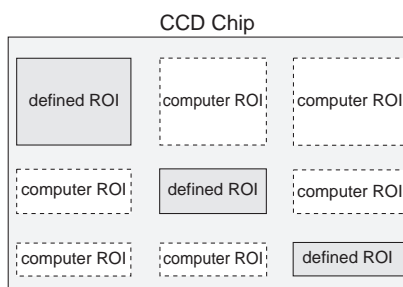
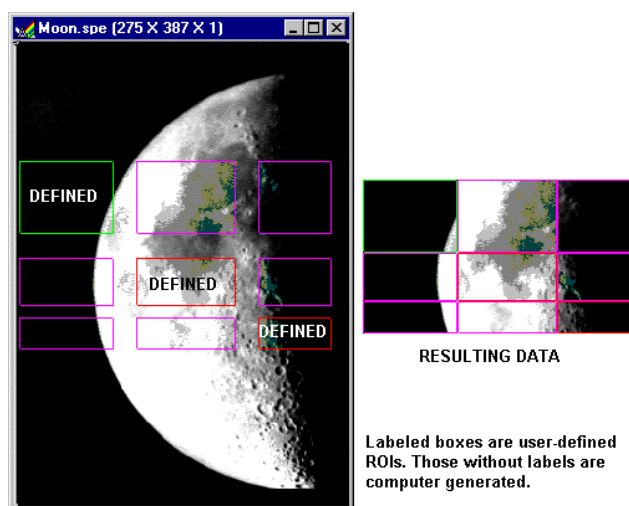

Figure 116. Imaging Mode Multiple ROIs with different widths
Figure 117. Multiple Imaging ROIs and Resulting Data
Figures 112-116 show possible ROI patterns. Note that the patterns in Figure 116 demonstrate varying size ROIs, a feature of Imaging Mode.
2. Once the first pattern is defined, all subsequent patterns are automatically assigned the same X-axis starting, ending, and grouping values. The first pattern need not be full width — any values in the chip range can be entered, but once stored, those values will apply as well to subsequently defined patterns. The figures below illustrate possible ROI patterns. Note the additional functionality available in Imaging Mode (Figure 116).
In this mode, ROIs can have varying sizes and degrees of overlap. However, when you define multiple ROIs like those in Figure 116, the computer automatically generates six “side-effect” ROIs in the regions where *extensions* of the strips and columns of the defined ROIs intersect. Both the defined and computer generated ROIs will be stored and the data for both will be displayed (see Figure 117). The side-effect ROIs are necessary to accommodate hardware limitations.
4. Defining the region with the mouse and then changing parameter values via the keyboard before storing the pattern. This allows you to change a full-width ROI created by mouse selection to a partial-width ROI like the one in Figure 116.